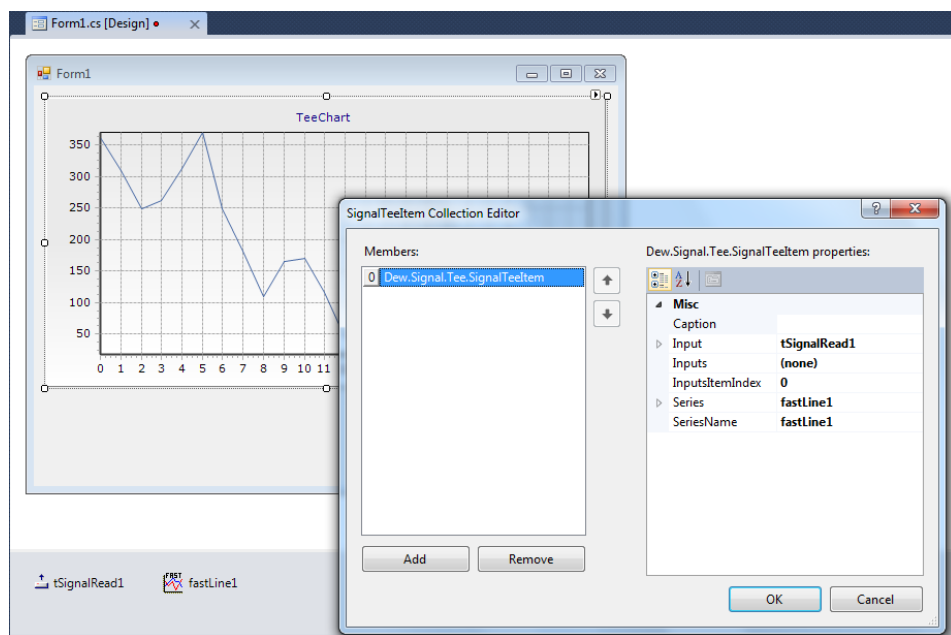

Figure 1 Connecting TSignal with SignalChart.
4. Add a new Item to the list and specify SignalRead1 as the Input and Series1 for the series property. (Figure 1) Once complete close the popup window.